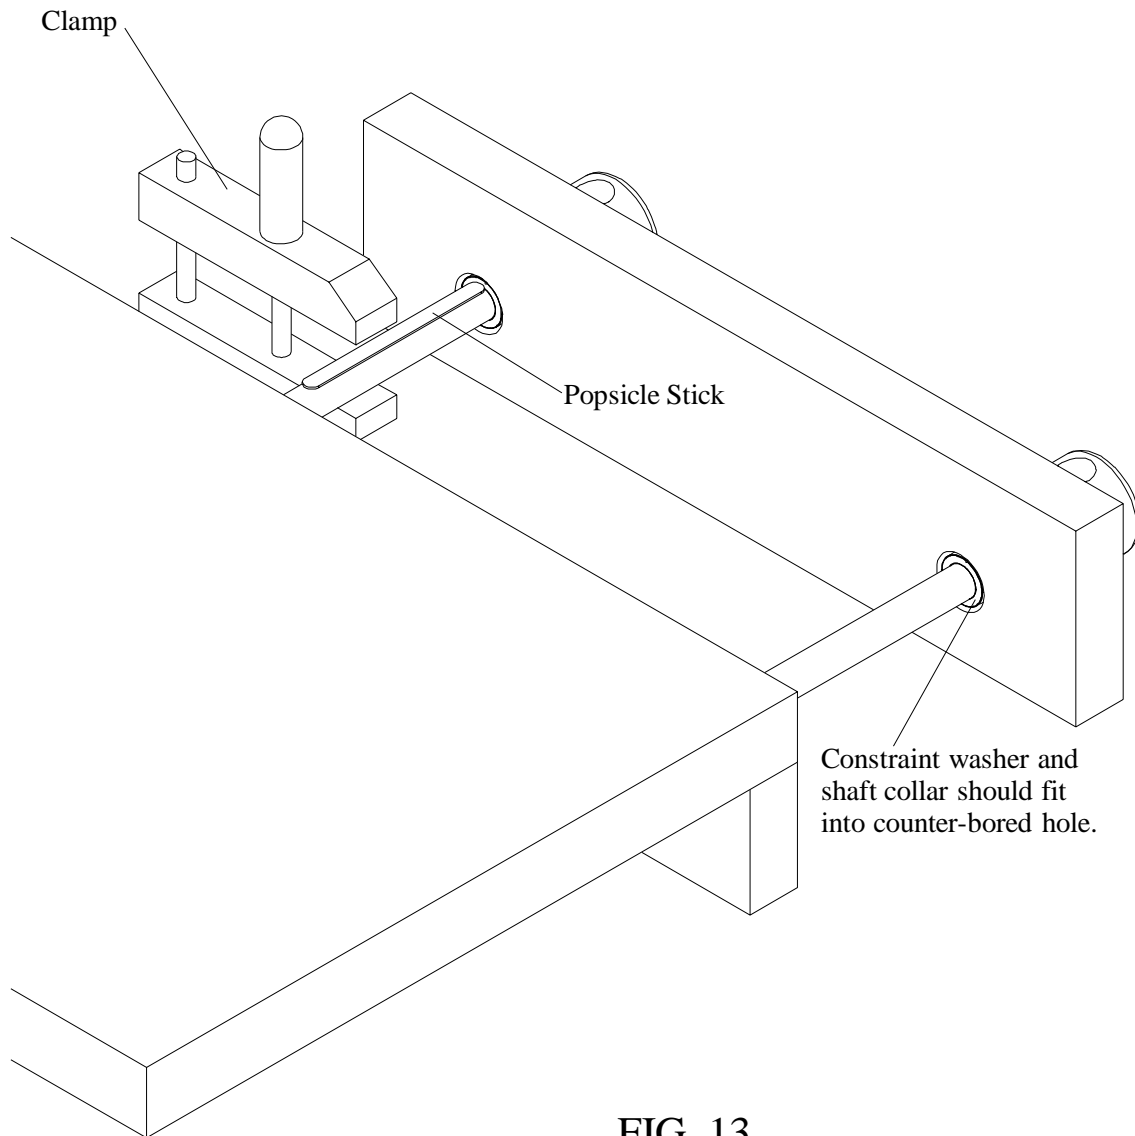

FIG. 13
Step 13: Open the jaw fully so you have access to the shaft collars as shown in Fig. 13. Clamp a Popsicle stick or other thin and narrow stick to one of the clamp shafts so that it holds the shaft collar and constraint washer (or shaft collar alone) tightly against the jaw. There should not be a gap between the jaw and the hub. Pull the quick release pin and remove the hub and jaw. Make sure the shaft collar is tight against the end of the Popsicle stick and firmly tighten the shaft collar using the included hex key wrench. Re-assemble everything and make sure the quick release pin can be installed and removed easily and there is not a large gap between the hub and jaw. Adjust the shaft collar for the proper fit. Repeat this procedure for the other clamp shaft. When you are satisfied the shaft collar is set correctly you can make a wooden gauge to allow you to quickly set the collar depth when you remove the jaw. You can also use a combination square as a depth gauge. If you remove the jaw frequently you can glue the constraint washer into the jaw with a dab of hot melt glue so you don't have to keep track of it. Install the handles to complete the assembly.